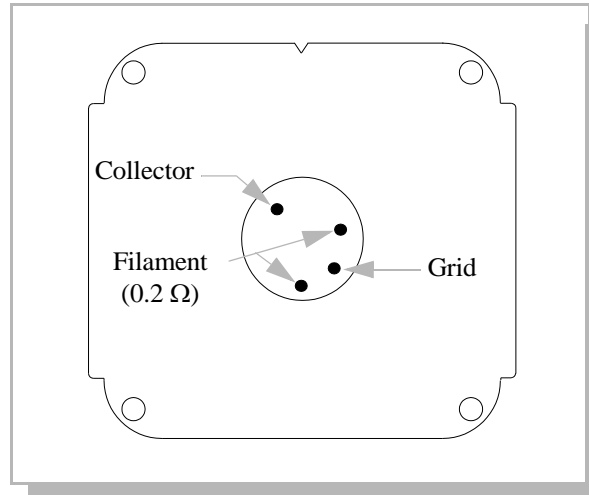

Figure 4-2 Mini-Ion Vacuum Gauge Module Pin Identification.
6. Using a digital multimeter, measure the resistance of the filament between filament pins as shown in Figure 4-2. The reading should be approximately 0.2 Ω .
7. Measure the resistance of filament pins to any other pin or gauge case as shown in Figure 4-2. The reading should be infinity.
8. Measure the resistance of Grid pins to any other pin or gauge case as shown in Figure 4-2. The reading should be infinity.
9. Measure the resistance of Collector pin to any other pin or gauge case as shown in Figure 4-2. The reading should be infinity.